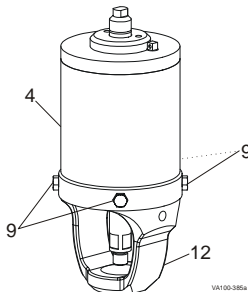

Figure 27 : Remove Yoke
1. Remove the cap screws (Figure 27, item 9) and pull the yoke (item 12) from the actuator cylinder (item 4).